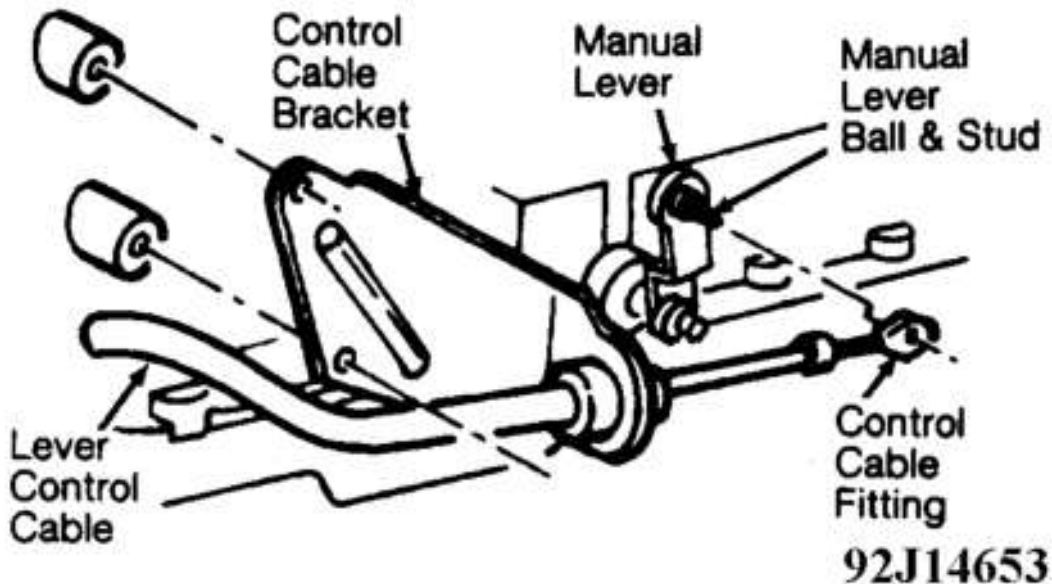

Fig. 8: Removing Manual Lever Seal
1. Remove manual lever position sensor connector. Remove shift cable from transmission manual lever, using a large screwdriver, pry control cable and fitting from lever ball and stud. See **Fig. 8**. Remove sensor retaining bolts.